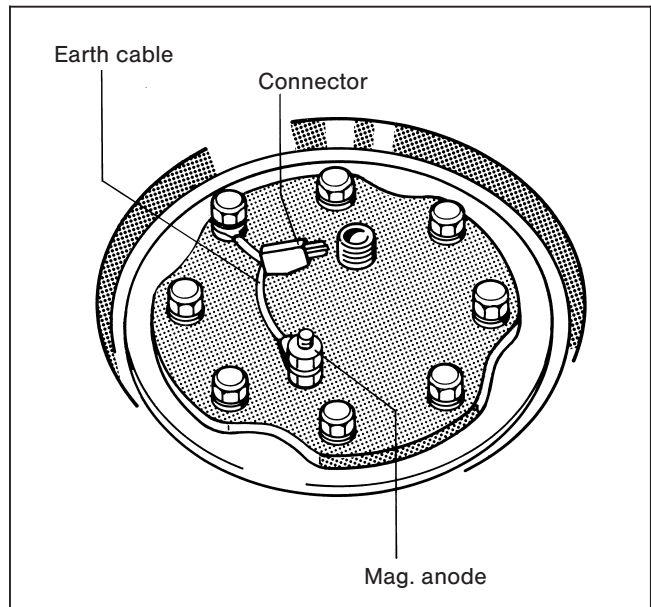

Fig. 10
- Check that the magnesium anode is fitted and the earth cable is connected (Fig.10).
- Ecomatic 4000 control panel: remove the connector on the earth cable (Fig. 10).
- Unscrew the hexagonal head screws from the handhole lid and remove the handhole lid with the magnesium anode (Fig. 10).
- Attach the lug of the earth cable and screw the hexagonal head screws back on again (Fig. 10).